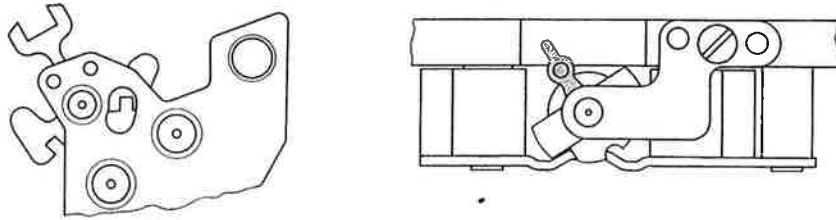

Fig. 16
- 9.15. Fit the motor after checking and a possible cleaning. Cleaning the motor see page 15. To fit the motor easier, tip the pallet fork and the finger to the left (Fig. 16).